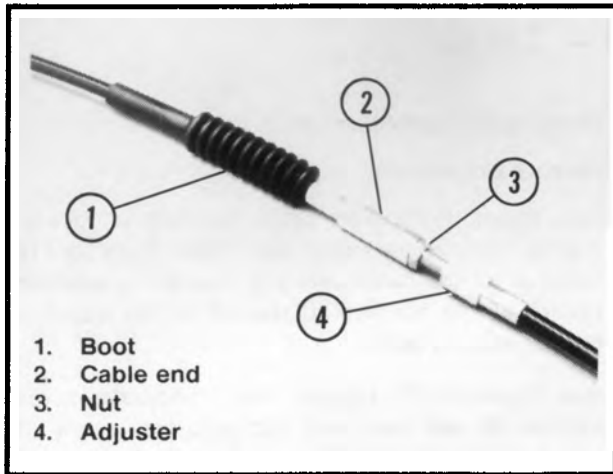

Figure 6-28. Clutch Cable Adjuster
3. See Figure 6-28. The cable adjuster is located midway between the clutch cable ends. Push boot (1) upwards on the cable until the adjuster is exposed. Loosen nut (3) and turn adjuster (4) all the way in to provide slack in cable.
6. See Figures 6-28, 6-29. Squeeze clutch lever to maximum limit, three times, to set ball and ramp release mechanism. Pull outer cable conduit and at the same time adjust cable adjuster (4) to provide 1/16-1/8 in. free play at hand lever. Tighten locknut (3) and return boot over adjuster.